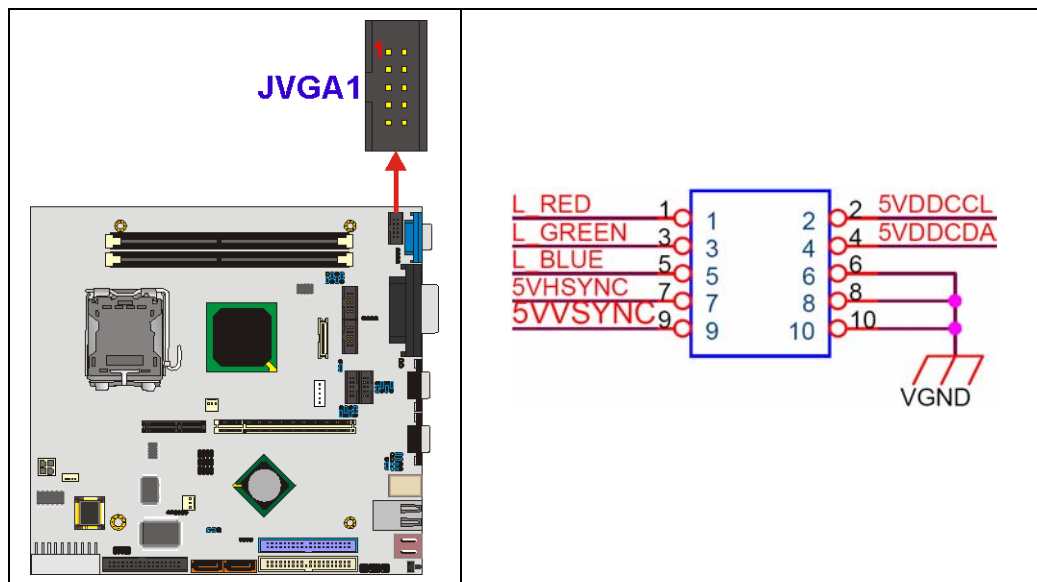

Figure 3-22 VGA Connector Location
- CN Location:** See Figure 3-22